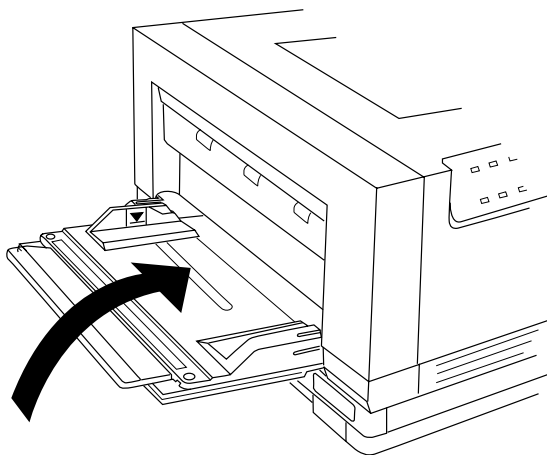

Fig. 6.1 *Closing the Standard Tray*
1. Remove any paper from the standard paper tray. Close the tray by pushing in the tray extension (fig. 6.1); then fold the tray up into the paper path door.